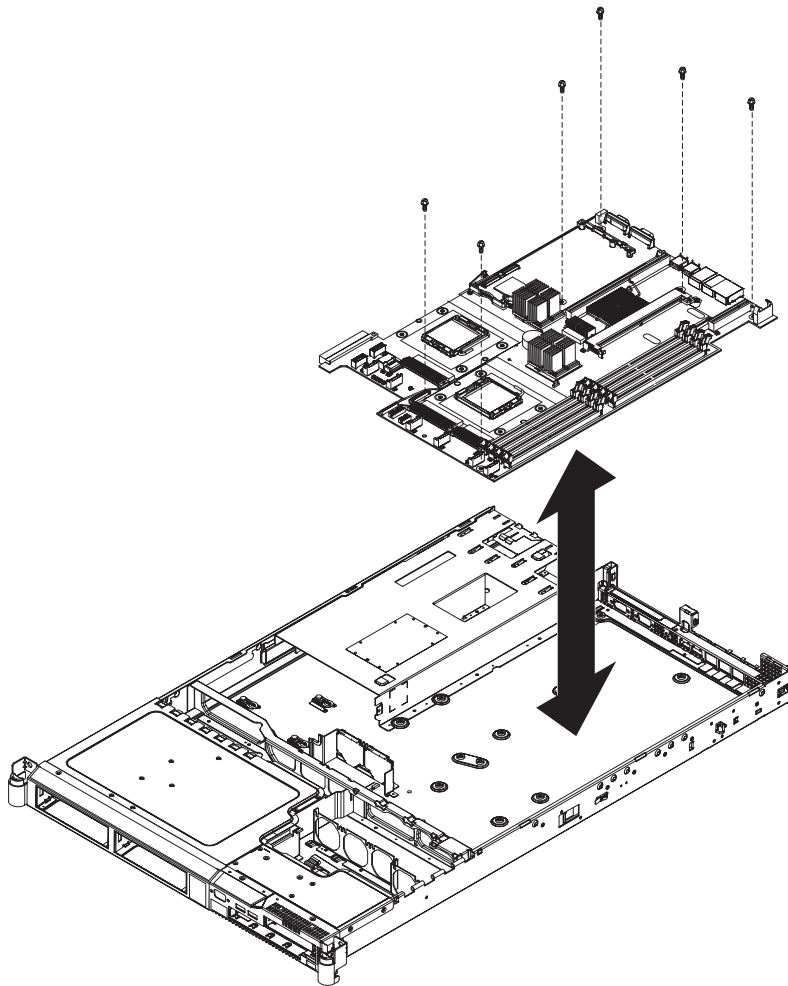

Figure 241. The placement of the screws that secure the SAN Volume Controller 2145-8G4 system board
18. Remove the six screws on the system board, as shown in Figure 241, that secure the system board to the chassis.